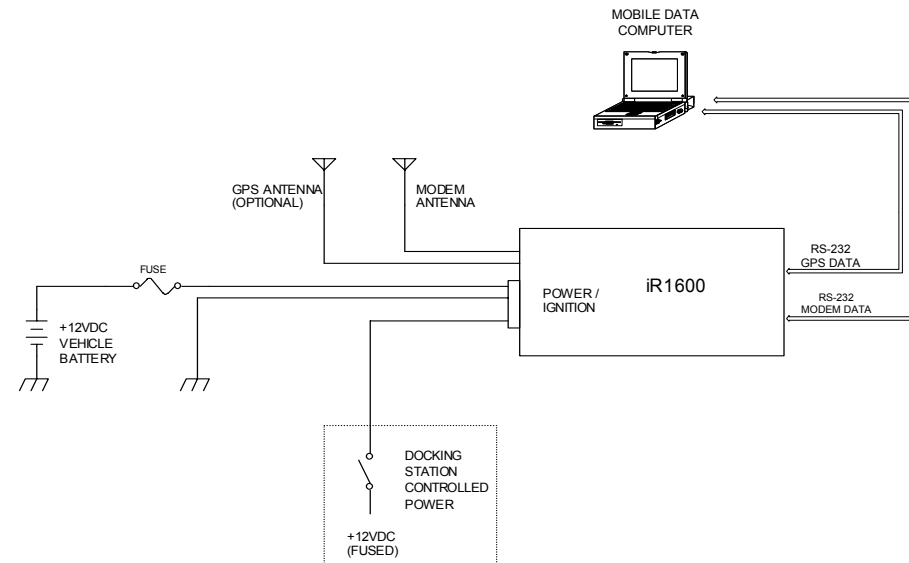

Figure 10 – Docking Station Configuration
9. Connect the free end of the ignition wire to a fused +12VDC circuit controlled by the laptop/MDT docking station (see Figure 10 on page 37). This circuit shall nominally output 12VDC @ 5mA when the modem is intended to be ON, and 0Vdc (open circuit) when the modem is intended to be OFF.